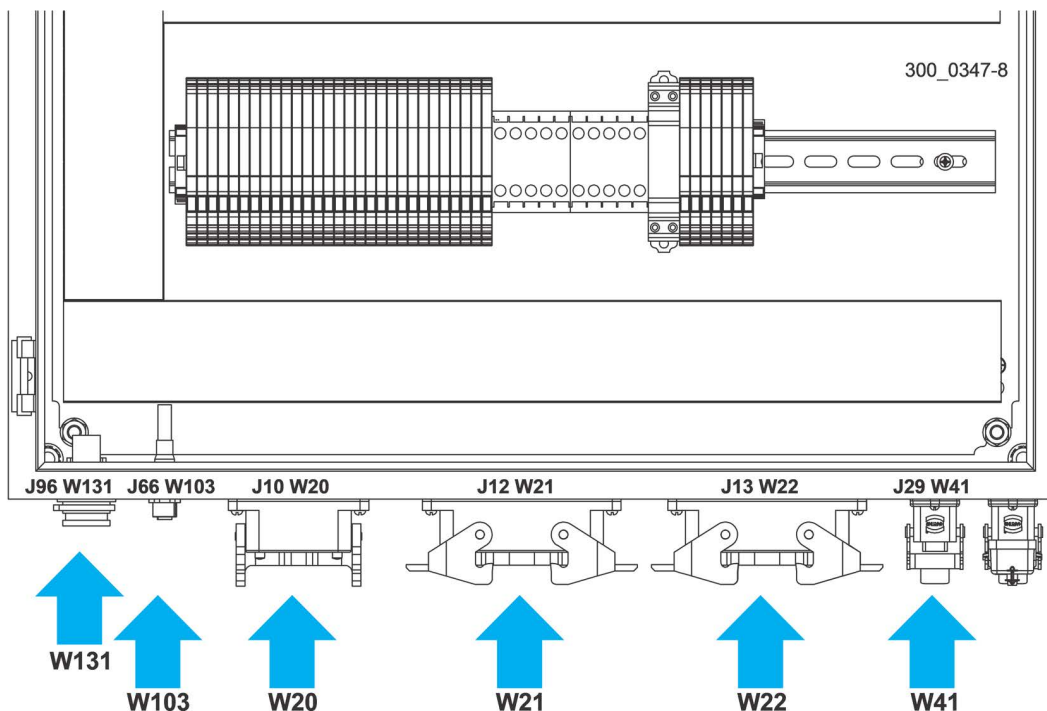

FIG. 3-22
- HMI Ethernet cable (W131) to the connector labeled J96 W131. **See Fig. 3-22.**
The Bio-Lube system lubricates the blade and blade wheels only while the blade is running. Blade lubrication increases the blade life and performance **See Fig. 3-22.**
1. Place the tank on the shelf, as shown in Figure 3-22.